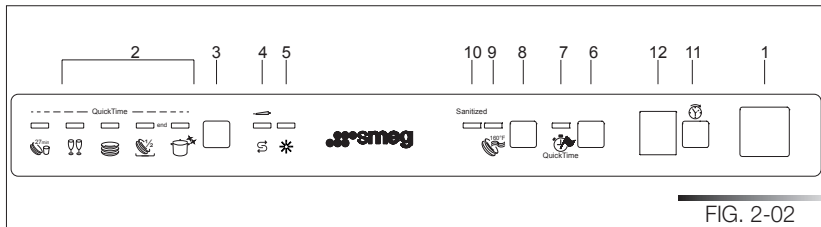

FIG. 2-02
The dishwasher is equipped with a control panel (see fig. 2-02) which is used to program the appliance and switch it on and off.
- (1) The cycle times and electrical energy listed use and care manual are based on normal soil loads and 120°F (49°C) incoming water and will vary based on your actual conditions.
- (2) Program for energy star.
To run programmes **6, 7, 8, 9, 10**, select the required standard programme and then press the **quick time option button** (ref. 6 fig. 2-02).
Press the on/off button (ref. 1 fig. 2-02) to start the dishwasher. Then wait for one of the **program indicator lights** to turn on (ref. 2 fig. 2-02).
- Press the **program selection button** (ref. 3 fig. 2-02) several times until the indicator light corresponding to the required program turns on (ref. 2 fig. 2-02);
- To cancel the current program, open the door and press and hold down the **program selection** button (ref. 3 fig. 2-02) for a few seconds until the indicator lights of the fourth and fifth programs turn on (ref. pr. 4, pr. 5 fig. 2-03).
Before programming a delay, open the door of the dishwasher, select the required washing program (see para 2.2 “Setting the washing program and switching on and off”). Select the day by pressing the **Program delay** button (ref. 11 fig. 2-02); each time you press the button, the display increases the delay before the appliance starts by **1 hour**.
At the end of the program, the dishwasher emits a short beep and the **indicator lights of the fourth and fifth program** (ref. pr. 4, pr. 5 fig. 2-04) flash. Turn off the appliance by opening the door and pressing the **on/off button** (ref. 1 fig. 2-02).